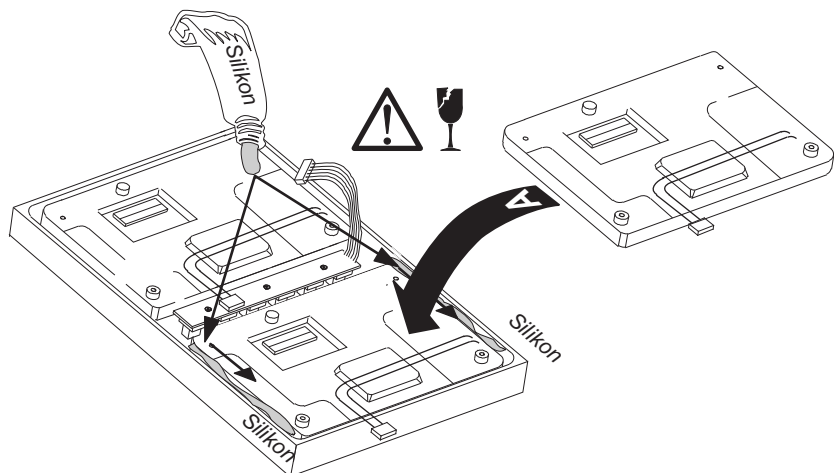

Fig. E 8-6: Mounting the new display
7. Place the new display unit (see Fig. E 8-6, A) and fix it with silicone (see Fig. E 8-6, B).